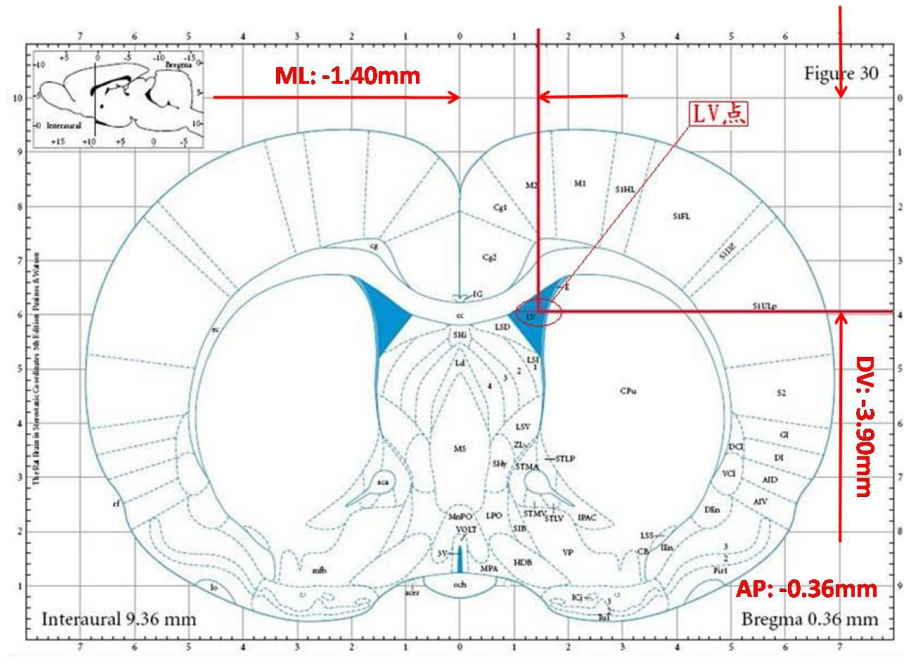

Fig.5 Localization Diagram of “LV” Target Point
As shown in Fig.5, one target site of interest “LV” in the rat brain would be injected a drug and according to the brain atlas of The Rat Brain in Stereotaxic Coordinates, it is located -1.40mm(ML), -0.36mm(AP) and -3.90mm(DV) with respect to bregma, the operation steps is as follows: firstly find the bregma as a reference point and individually record the readings from the X, Y and Z axis in standard stereotaxic instruments or respectively zero the X, Y and Z values by pressing the keys on the front panel of the digital display module in desktop digital stereotaxic instruments, then adjust and move the manipulator arm 1.40mm rightwards, 0.36mm backwards and 3.90mm downwards (taking the operator facing the U-opening of the instrument as a reference orientation and the readings will decrease and increase when rotating the manipulator arm clockwise and counterclockwise respectively) , here the position of the tip of the syringe is just the “LV” target point.